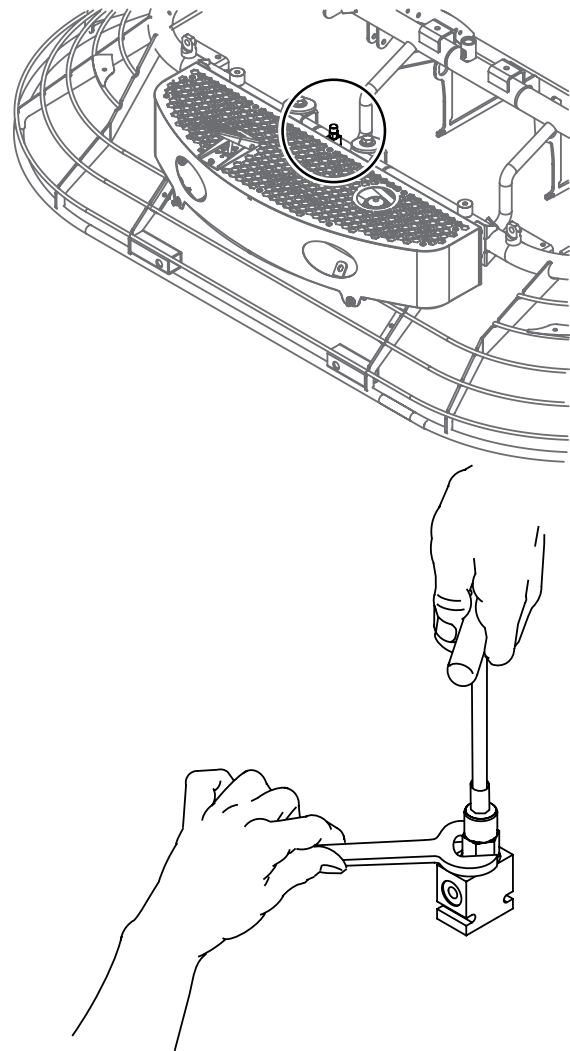

Figure 49. Steering Pressure Adjustment
2. Loosen jam nut on pilot relief valve (Figure 49).